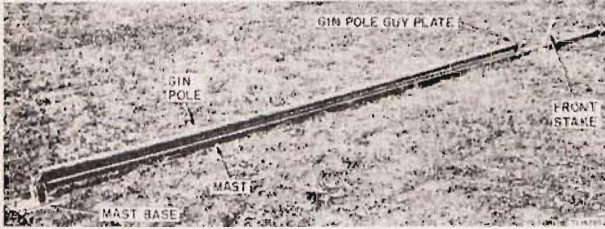

Figure 36. Position of gin pole for block and tackle.
n. Rotate the gin pole to the position shown in figure 36, and place a guy plate over the top of the gin pole.